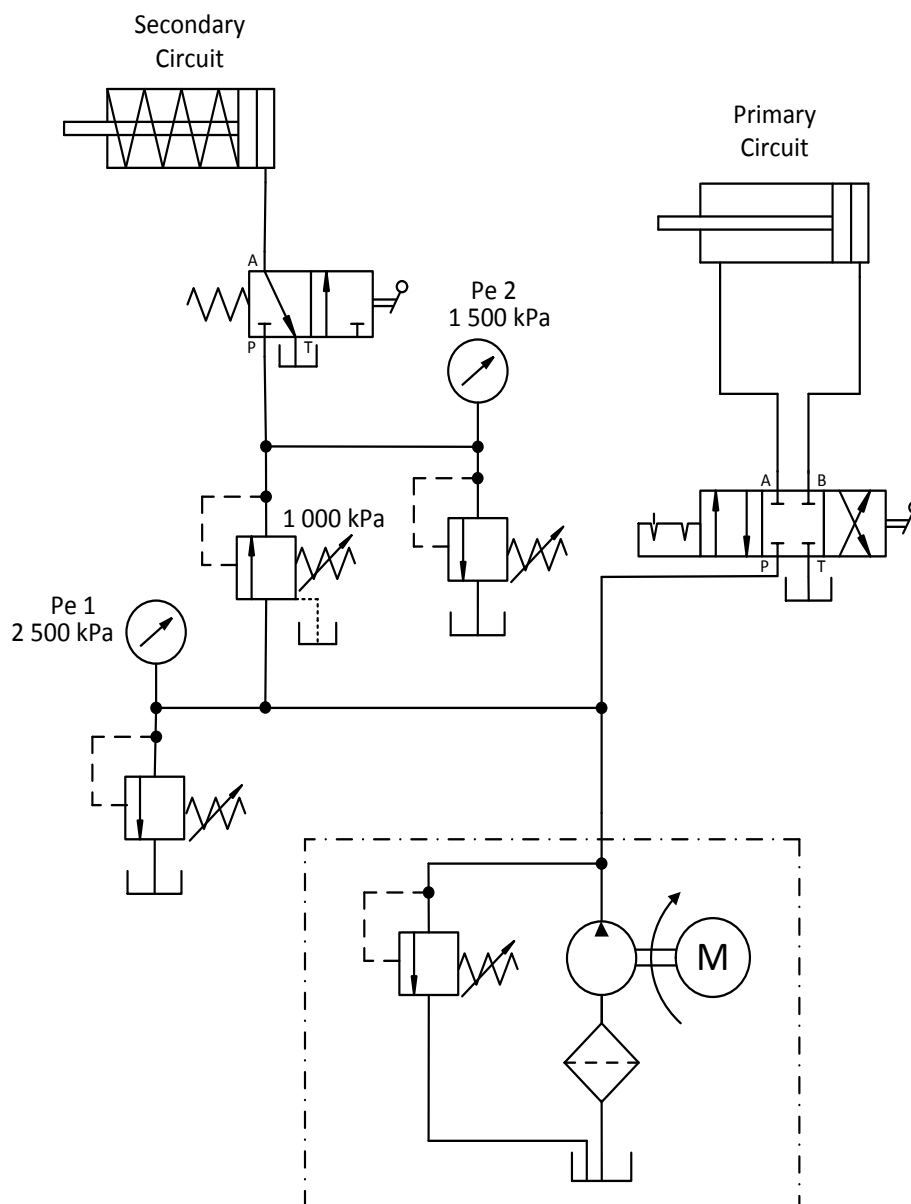

FIG 7.
- A. The method of adjusting the valves is explained below: (Fig 7 & 8)